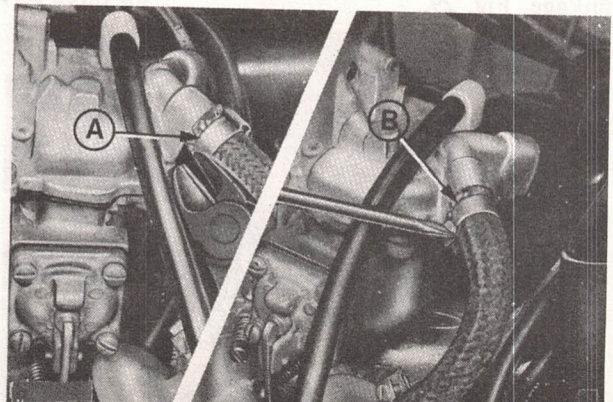

Fig. 31. Disconnecting and reconnecting carburettor supply pipe.
5. Disconnect vacuum, vent and fuel feed pipes. If crimped type hose clamp is fitted it should be cut free and replaced with a screw type clamp, Fig. 31.